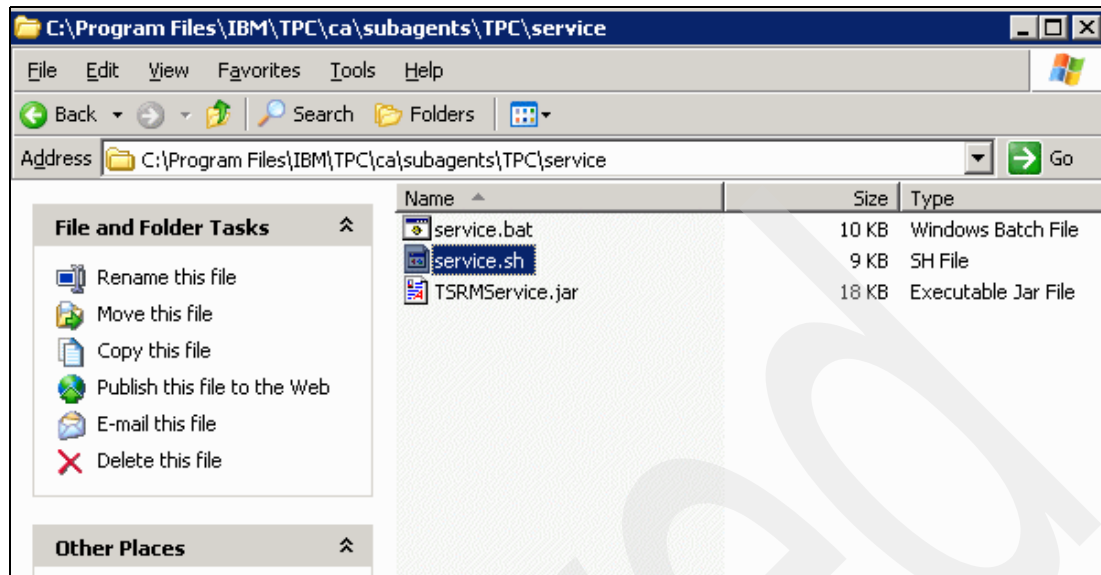

Figure 6-3 Data agent and Fabric agent service tool default directory
2. If you used the default directory, go to the following directory (see Figure 6-3 on page 225):